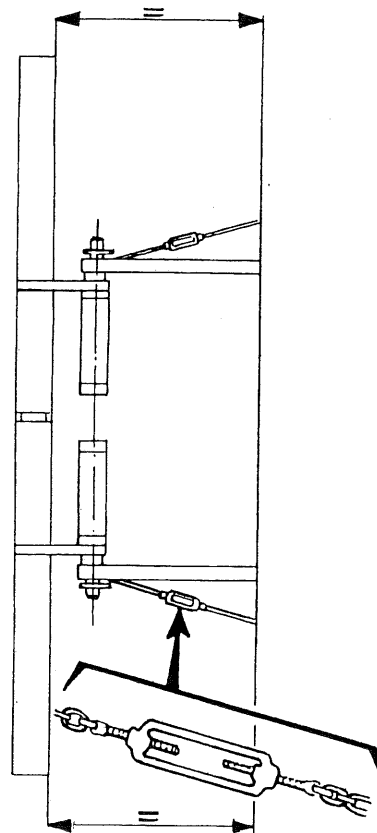

FIG. 7
10.4 - Limit sideways movements and keep the machine parallel with the tractor, using the stabilizer chains and arm adjustment device (fig. 7).